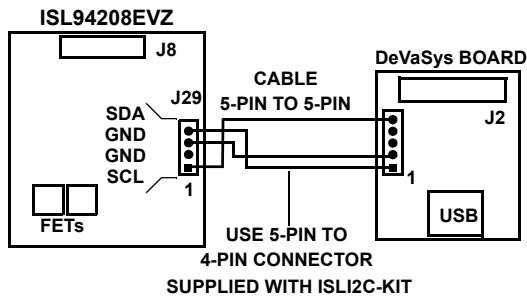

FIGURE 5. I²C CONNECTION TO ISL94208 PCB
- Connect the I²C cable from the DeVaSys board to the ISL94208EVZ board as shown in Figure 5. Use the 5- to 4-pin cable provided in the ISLI2C-KIT.